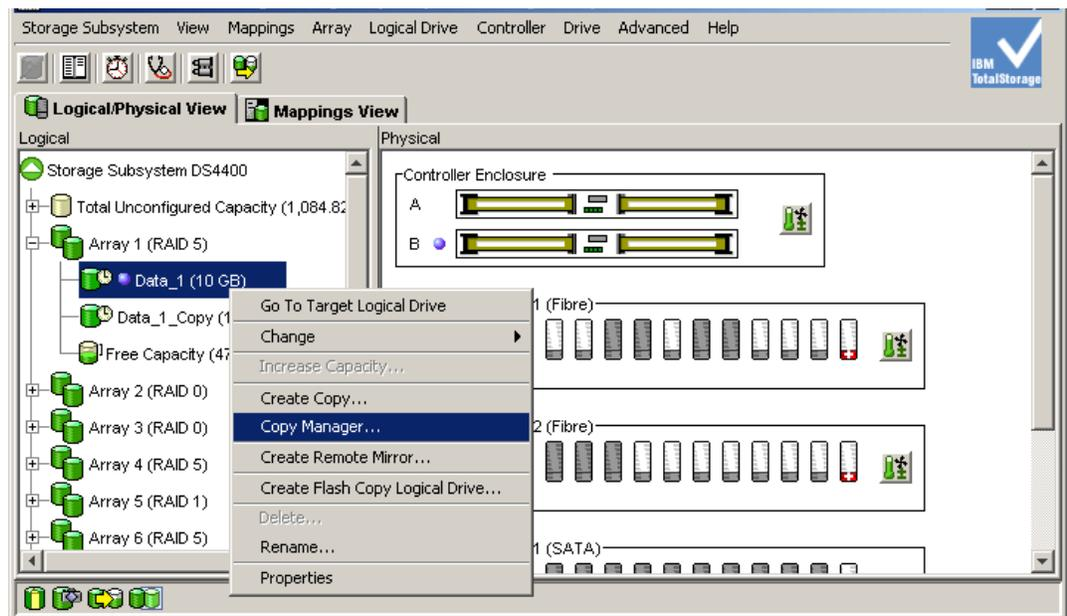

Figure 9-11 Launching the Copy Manager
1. Select either the **Logical Drive** → **VolumeCopy** → **Copy Manager** pull-down menu option or **Copy Manager** from the right-mouse pop-up menu (Figure 9-11).